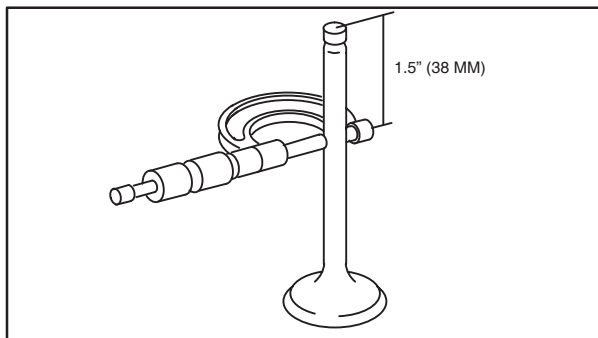

Fig. 15
1. Measure valve stem diameter approximately 1-1/2" (38 mm) from end of valve, Fig. 15. Replace valve if stem diameter is less than 0.233" (5.92 mm).